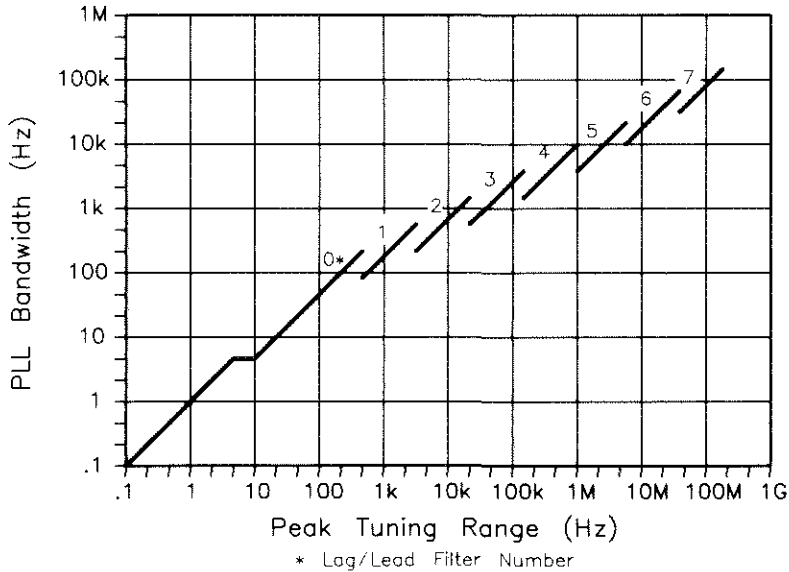

Figure 8-3. Phase Lock Loop Bandwidth as a Function of the Peak Tuning Range of the Measurement.
<p>4</p>	<p>Unable to close the Phase Lock Loop.</p> <p>Action: There are several possible conditions that can prevent the HP 3048A from being able to close the phase lock loop. These conditions and the actions recommended for verifying them are listed below in the order of probable cause.</p> <ol style="list-style-type: none">1. The system is not able to tune the beatnote to within the Capture Range set for the measurement. This possibility can be minimized by carefully following the Checking the Beatnote procedure provided in each measurement example in Chapter 3 of the Operating Manual. If an oscilloscope is available, you will find that connecting the scope to the AUX MONITOR port on the HP 11848A allows you to continuously monitor the beatnote throughout the measurement. By aborting this measurement and reinitiating a New Measurement, you can observe the beatnote as the HP 3048A attempts to close the phase lock loop (a message will appear in the HP 3048A's display to let you know when this is happening). The beatnote frequency, as seen on the scope, should decrease and then go to zero (dc). Watching the beatnote's response as the system attempts to adjust it to 0 Hz can provide clues about tuning problems that may exist.2. The beatnote drifted beyond the system's Capture Range before the HP 3048A was able to acquire lock. For further information on verifying the frequency stability of the beatnote, refer to Tracking Frequency Drift in Chapter 3 of the Operating Manual.3. The VCO Tuning Constant entered for the measurement was not within a factor of 2 of the actual Tuning Constant, and the HP 3048A was not configured to measure the Tuning Constant for verification. For details on verifying the Tuning Constant of your VCO, refer to Estimating the Tuning Constant in Chapter 3 of the Operating Manual.4. The Peak Tuning Range set for the measurement is > 10 MHz and is causing the loop dynamics to be non-linear. When this condition exists, the non-linear response of the beatnote as the system attempts to close the phase lock loop can often be seen on an oscilloscope connected to the AUX MONITOR port on the HP 11848A.5. One of the sources is being injection locked as the HP 3048A is tuning the beatnote to 0 Hz. (Refer to Minimizing Injection Locking in Chapter 3 of the Operating Manual for recommended actions.)6. The modulation bandwidth of the VCO source's tuning port is not wide enough to provide adequate phase margin for the system's phase lock loop (PLL). The VCO's modulation bandwidth (the upper frequency limit of the VCO's tuning port) should be greater than approximately ten times the PLL bandwidth set for the measurement. PLL bandwidth is shown as a function of the Peak Tuning Range (PTR) in Figure 8-3. (The PTR for the measurement is determined by multiplying the VCO's Tuning Constant by its Voltage Tuning Range.)
- Decrease the PLL bandwidth to 1/10 the VCO's modulation bandwidth by decreasing the Peak Tuning Range (PTR) for the measurement. Use Figure 8-3 to determine the PTR required. The PTR can be reduced by decreasing the Tuning Voltage Range value entered. Divide the required PTR by the VCO's Tuning Constant to determine the appropriate Voltage Tuning Range to enter. (Keep in mind that reducing the PTR limits the HP 3048A's Frequency Drift Tracking Range for the measurement. For further information about changing the PTR, refer to *Changing the PTR* in Chapter 3 of the Operating Manual.)